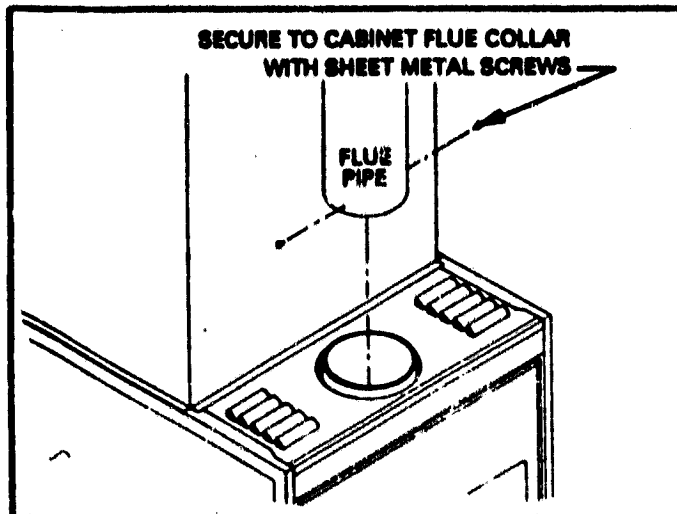

FIGURE 3
- 1 - Install flue pipe over the collar on the cabinet top and connect to the chimney using least number of elbows and angles possible. See Figure 3.